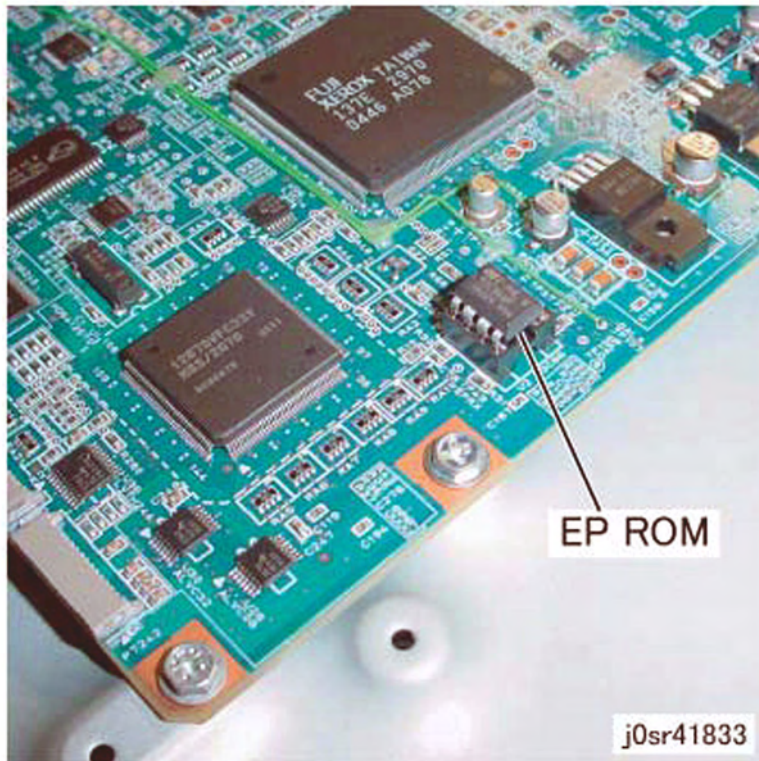

Figure 4 EP ROM Replacement
2. When replacing the IIT/IPS PWB, install the EP ROM from the old IIT/IPS PWB on the new IIT/IPS PWB (Figure 4).